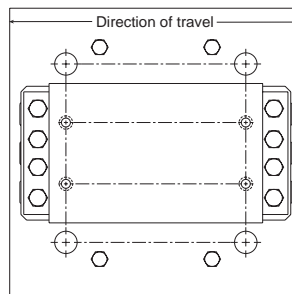

Figure 3.1 Orient the mount
3. The mount must be positioned in the direction of travel (Figure 3.1). Also, the load on each mount assembly should be equal to each other.
1. Start with a flat, rigid foundation (concrete pier). Using a forklift, position the mount onto the foundation. Align the base plate in the direction of travel (Figure 3.1).